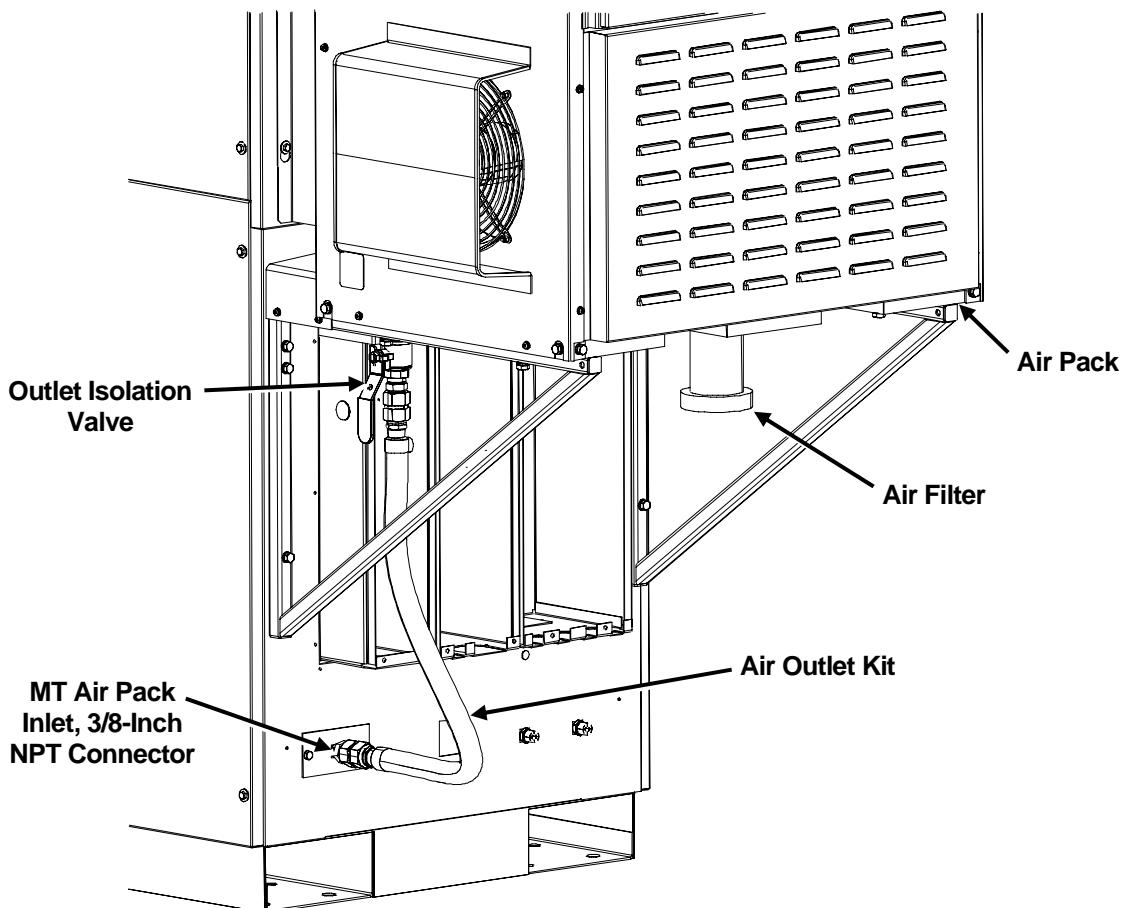

Figure 8. Installing Air Outlet Kit
10. Install the air outlet kit and air filter as shown in Figure 8. Refer to O&I Drawing 522944-100 for installation details. Use gas rated yellow tape or equivalent on all threaded joints.